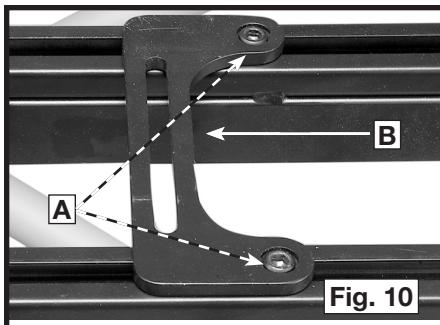

Fig. 10
1. Use the supplied hex wrench to loosen the screws (A) Fig. 10 of the moveable saw connector (B).